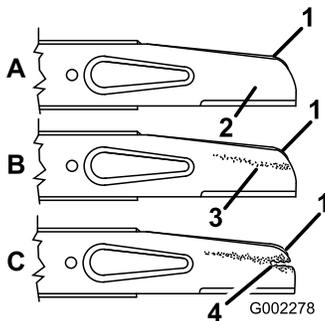

Figure 29
2. Remove the blade bolt, the lock washer, the accelerator, and the blade (Figure 29).